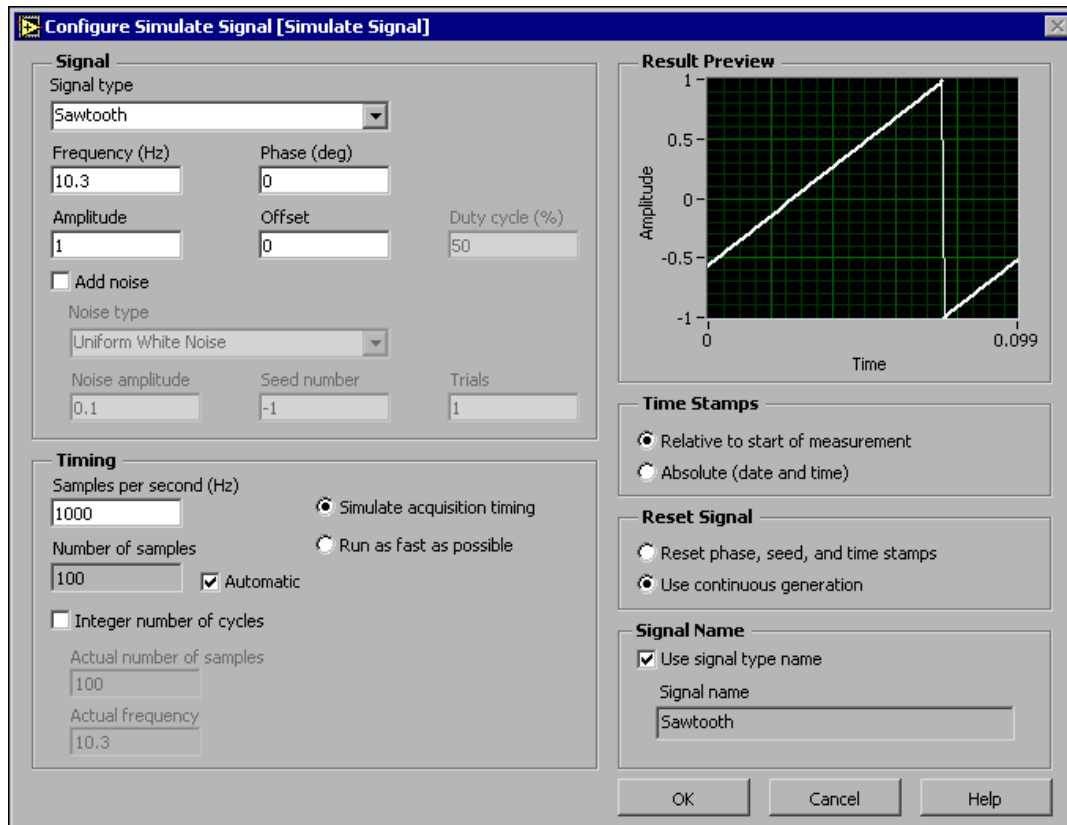

Figure 1.20
3. Select `Sawtooth` from the `Signal type` pull-down menu. Notice that the waveform on the graph in the `Result Preview` section changes to a sawtooth wave. The `Configure Simulate Signal` dialog box should appear similar to Figure 1.20.
6. -----↑----- When a double-headed arrow appears, shown at left, click and drag the border of the Express VI until the Amplitude input appears. Notice how you expanded the Simulate Signal Express VI to display a new input. Because the Amplitude input appears on the block diagram, you can configure the amplitude of the sawtooth wave on the block diagram. In Figure 1.20, notice how Amplitude is an option in the Configure Simulate Signal dialog box. When inputs, such as Amplitude, appear on the block diagram and in the configuration dialog box, you can configure the inputs in either location.